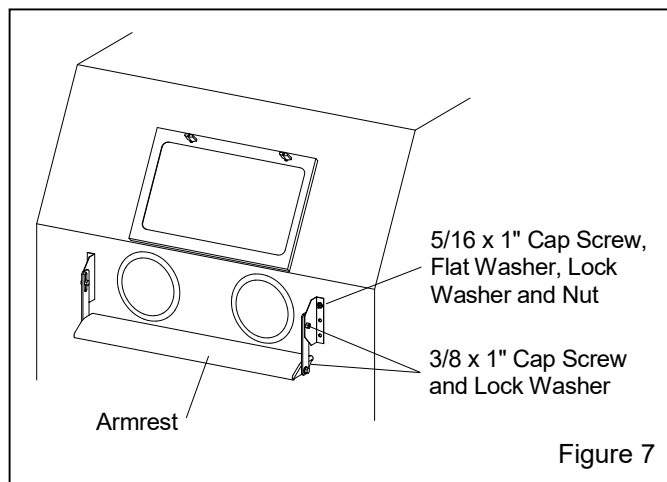

Figure 7
3.1 Armrest – Figure 7
3.1.1 Assemble the armrest and mounting brackets, as shown in Figure 7.